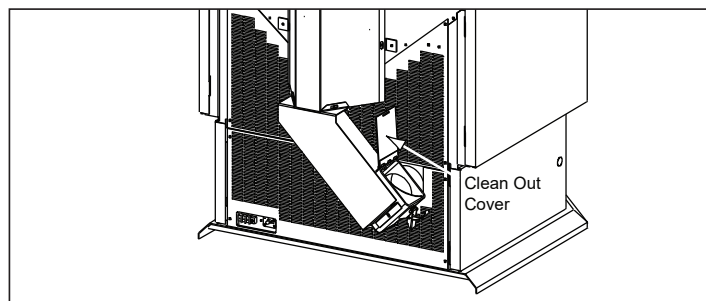

Figure 20.1
- b. Open the clean-out cover. **See Figure 20.1.**